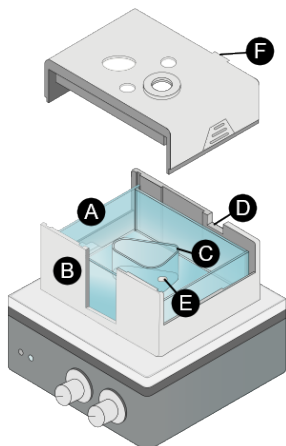

Figure 1. Photosynthesis chamber and lid
1. Set the transparent tank ④ in the base ③ where the angled portion ⑤ is near the base notch ⑥ as shown in Figure 1. If the tank does not fit, rotate it and try again.